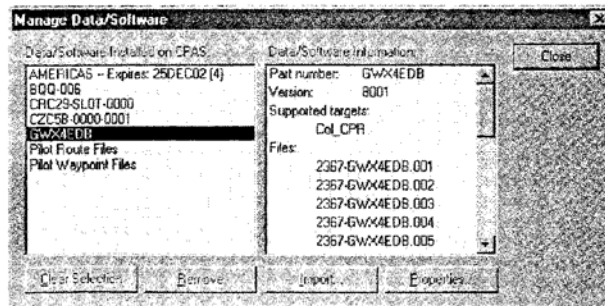

Fig. 205 - E-Maps-CPAS File
- (IFIS) E-Maps-CPAS (Ref. Fig. 205)
The E-Maps-CPAS file has to be run and is self extracted in the DATA/SOFTWARE INSTALLED ON CPAS list box as in Figure 205.